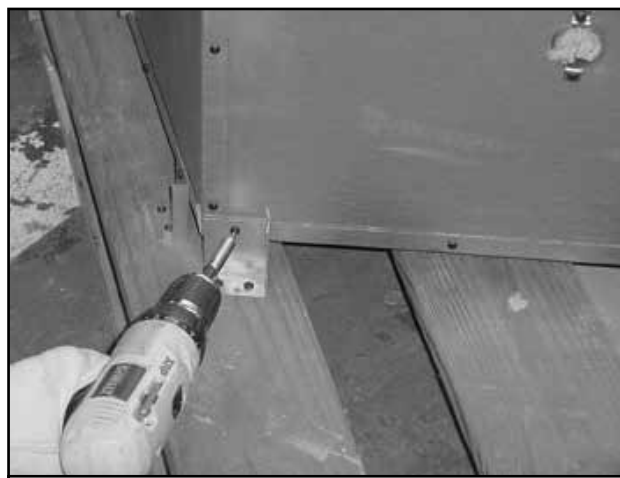

Figure 3.11 Removing Shipping Brackets
- Remove shipping brackets as shown in Figure 3.11. Replace the screws removed from the fireplace.
- Remove fireplace from pallet. The fireplace is attached to pallet with two brackets on each side and rear of outer shell. See Figure 3.11.